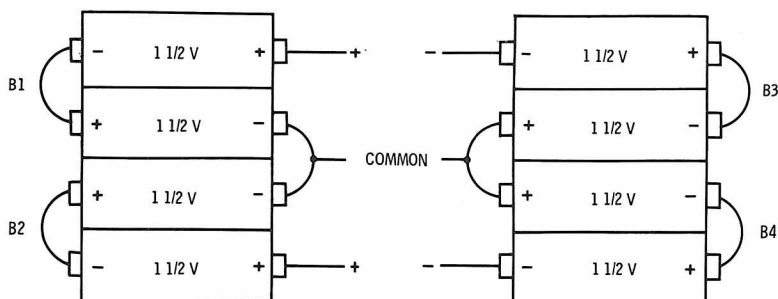

Figure 9-3. Transistor tester battery-connector diagram.
Connect the battery holders next. Refer to Figure 9-3 for guidance to avoid polarity errors and wire the holders as follows.
1. Connect alternate terminals of each four cell holder to one another as shown in Figure 9-3 and solder in place.
Inspect the circuit for wiring errors before installing batteries in the holders. Then install the AA cells in accordance with the diagram in Figure 9-3. Make sure the cells are fresh and installed correctly or the tester will not work properly.